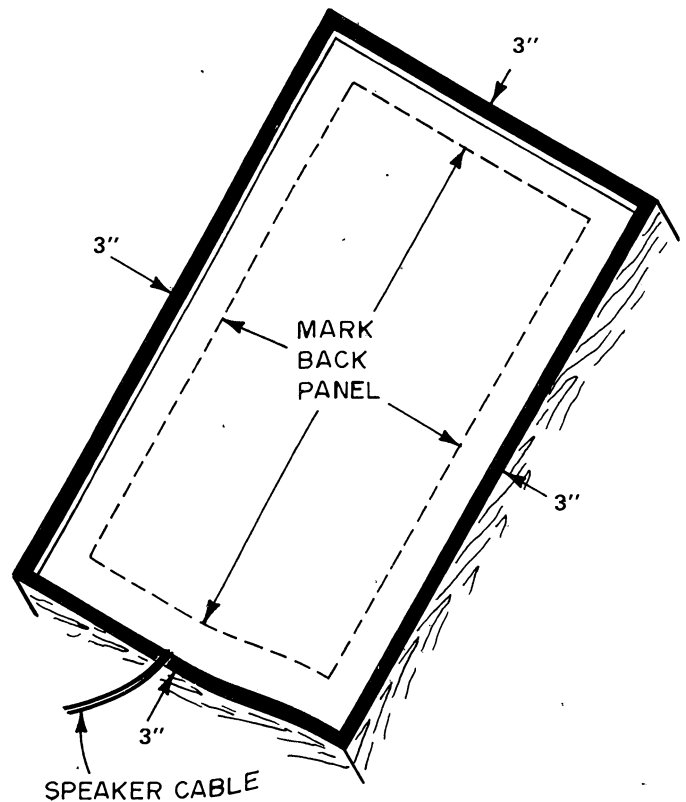

FIGURE 1 – MARKING BACK PANEL
2. Draw four (4) straight lines on existing cabinet back as illustrated (by dash lines) in Figure 1. The lines must be approximately 3" from, and parallel with, the outer edges of side, top and bottom panels.